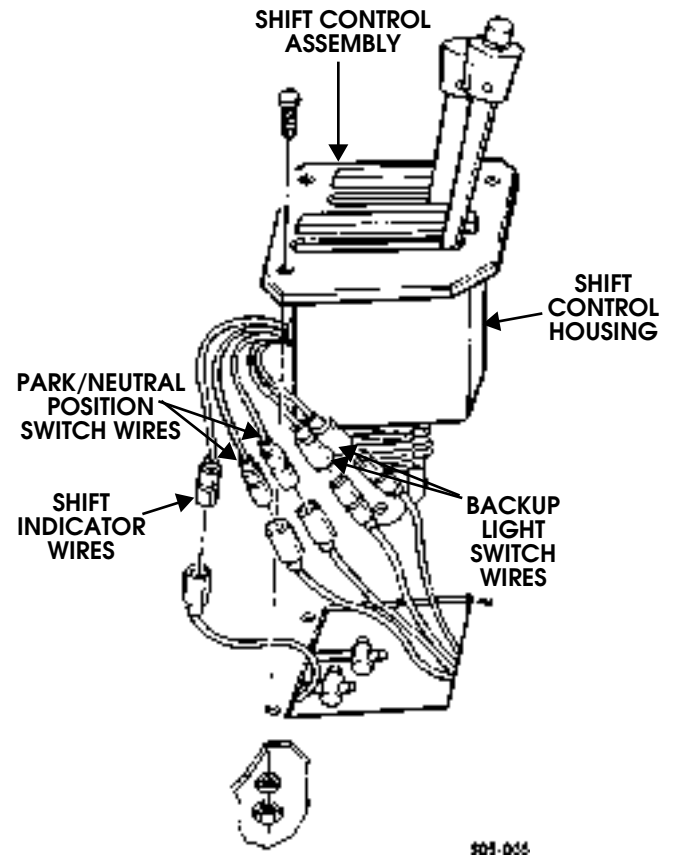

Figure 5-55: Harness Wire Identification
4. Remove shift control housing bolts and remove assembly from body (Figure 5-55).
5. Move shift boot away from shift control housing for access to wires (Figure 5-55).